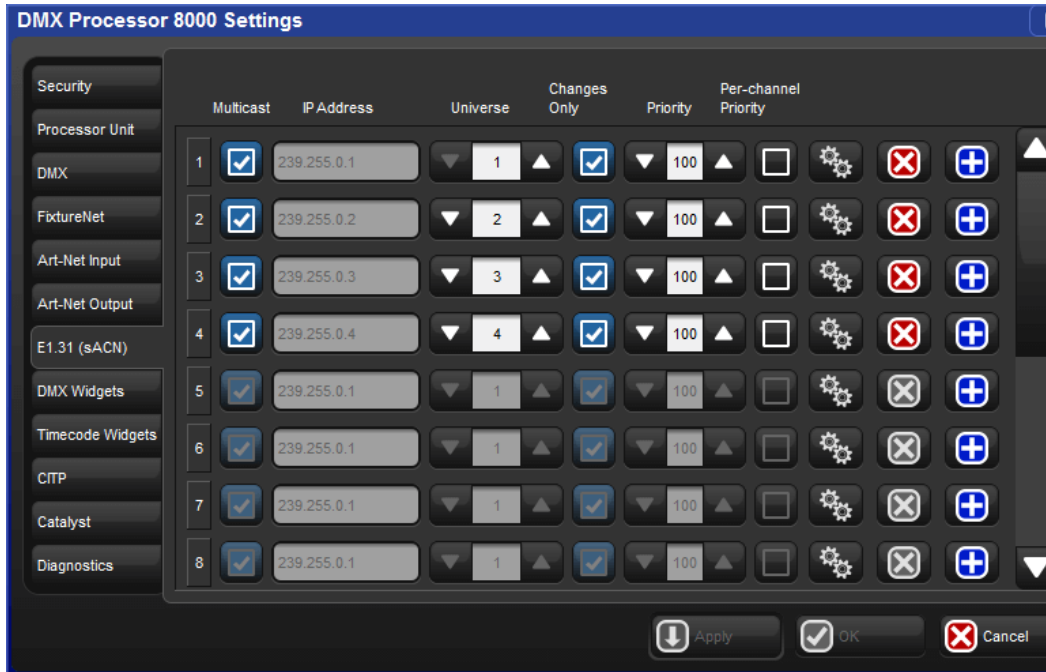

Figure 3.12. E1.31 pane of the DMX Processor Settings window
3. Select the E1.31 pane of the DMX Processor Settings window, see *Figure 3.12, "E1.31 pane of the DMX Processor Settings window"*.